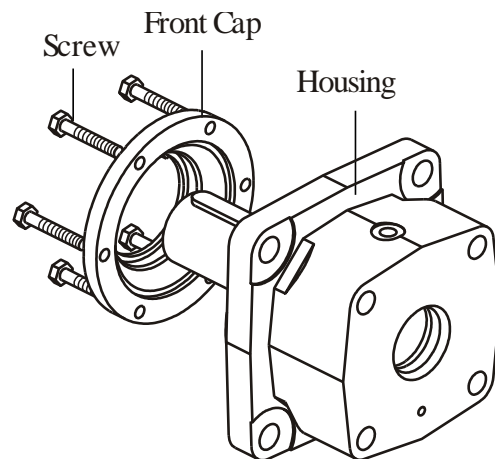

Fig.3
8. Turn housing with the shaft up. Unscrew bolts using a socket wrench. Remove front cover incl. seals. (see Fig.3).